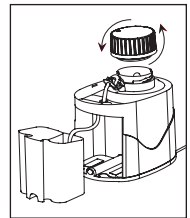

Fig. 4
- 3) Remove the cap to the water heater tank by turning it counterclockwise, Fig. 4.